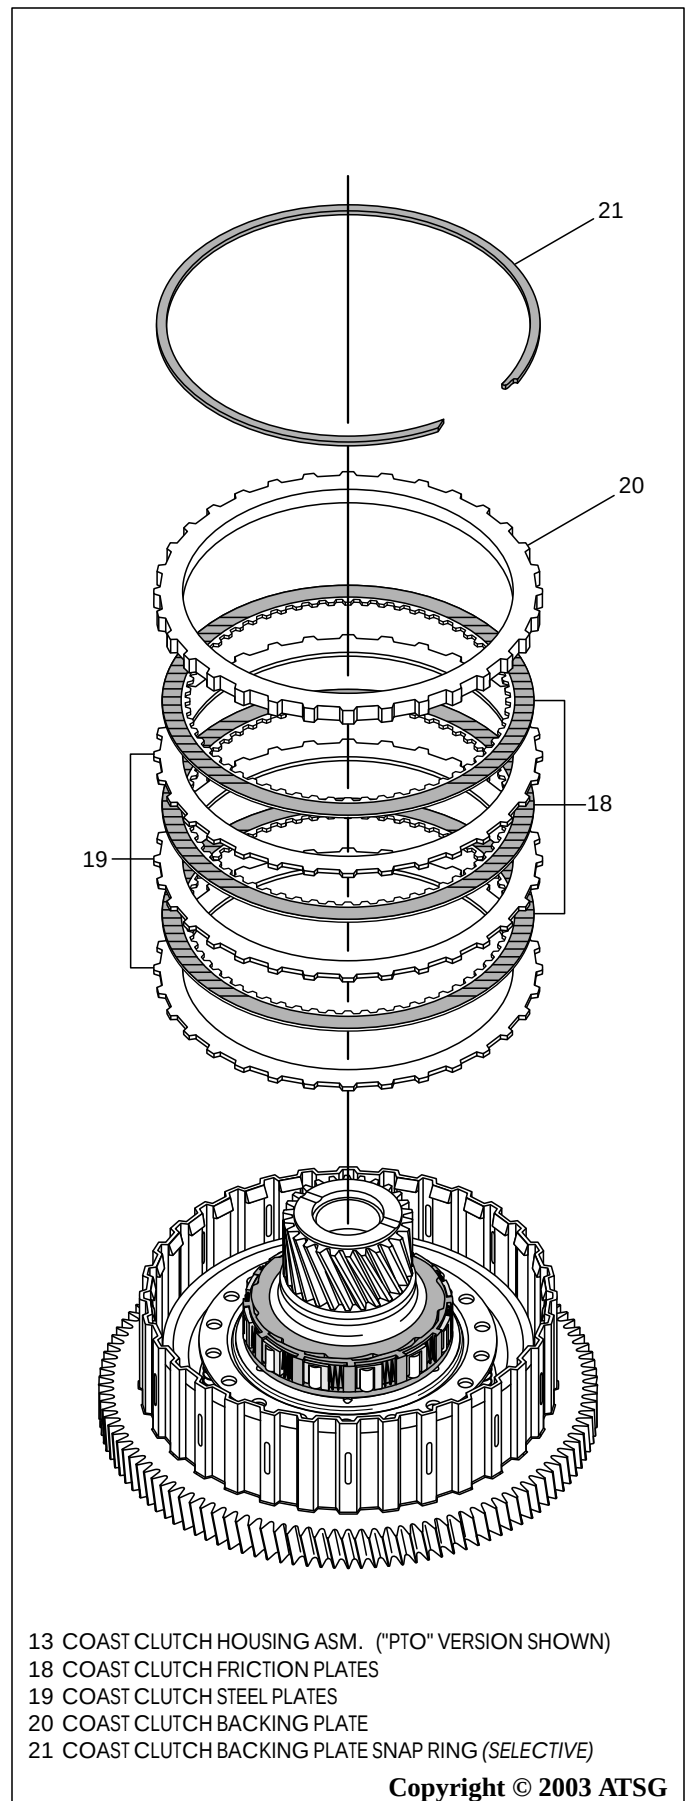

Figure 154
12. Install the coast clutch plates in coast clutch housing, as shown in Figure 154, beginning with a steel plate and alternating with friction plates, until you have proper amount installed.
13. Install the coast clutch backing plate, as shown in Figure 154.
14. Install the **selective** coast clutch backing plate snap ring, as shown in Figure 154, and ensure that it is fully seated.